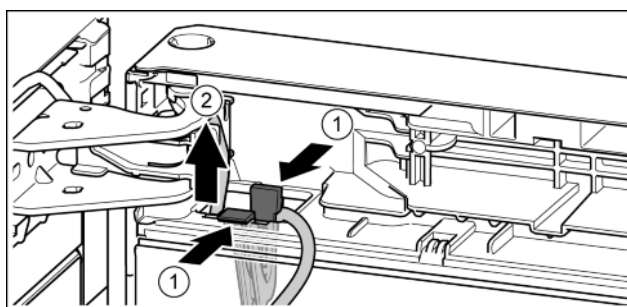

Fig. 21
- Press the lug. *Fig. 21 (1)*
- Remove the cable holder with its cable. *Fig. 21 (2)*